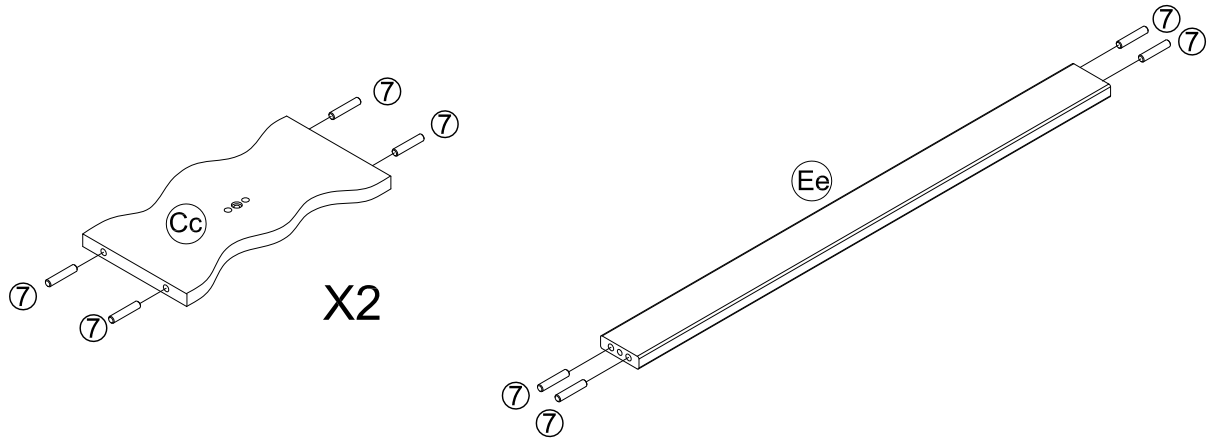

FIGURE 1
- 1.1 INSERT (12) WOOD DOWELS (7) INTO HOLES LOCATED AT UPPER END OF LEGS #Cc AND CORSSBAR #Ee AS SHOWN IN FIGURE 1.